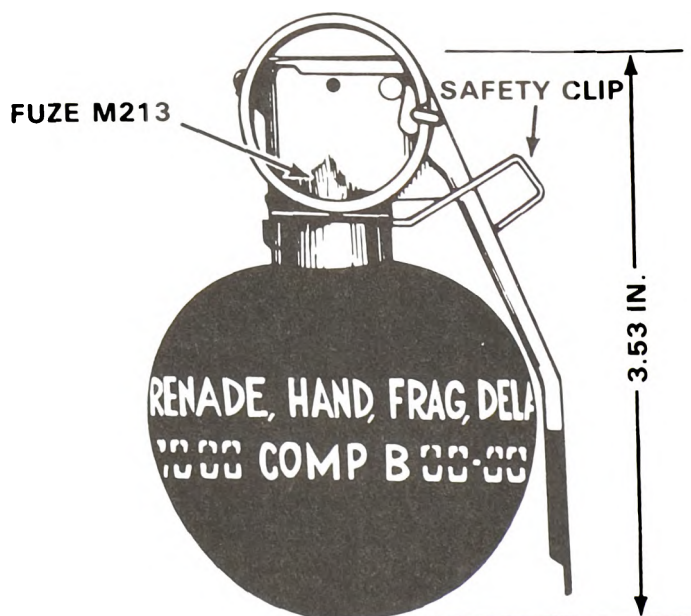

Figure 4. Fragmentation hand grenade M67.
- d. Using Fragmentation Grenade M67 with Time Delay Fuze M213 (fig 4). This grenade is your best all-round choice. It can be thrown a little over 40 meters by most soldiers and will kill or injure exposed soldiers who are within 15 meters of it when it explodes. You should, with some practice, be able to throw the grenade to within 5 meters of a selected point 35 meters away from you or within a fighting position 2 meters wide at 20 meters range. Grenades thrown at these targets may hit and roll into the target area, but you should practice to hit the fighting position "on the fly" in order to destroy position with frontal cover. Another technique which can be employed with these grenades is the cookoff. To do this, you must release the safety lever and hold the grenade for a two count (YOU MUST NOT HOLD IT LONGER, HOWEVER). Then when the grenade is thrown, enemy personnel will not have time to pick it up and throw it back. In addition, if it is thrown high into the air, it can explode over the target (airburst).